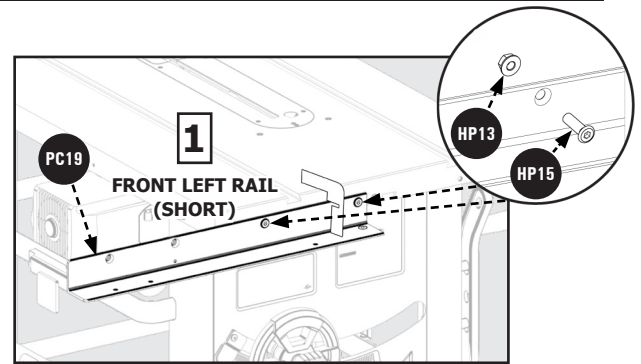

Figure 5
1. Attach the Front Fence Rails (PC19) (1&2) to the Table Front using (4) 5/16-18 x 1-1/8 inch Flat Countersunk Hex Screw (HP15), and (4) 5/16-18 Hex Flange Nuts (HP13), see Figure 5 and 6.